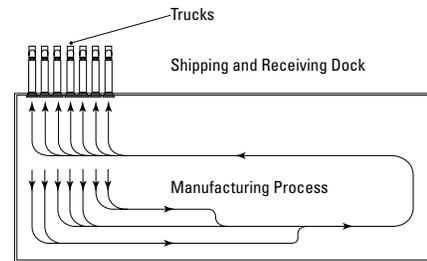

Fig. 1
- Combined, so that shipping and receiving are together (Fig. 1).